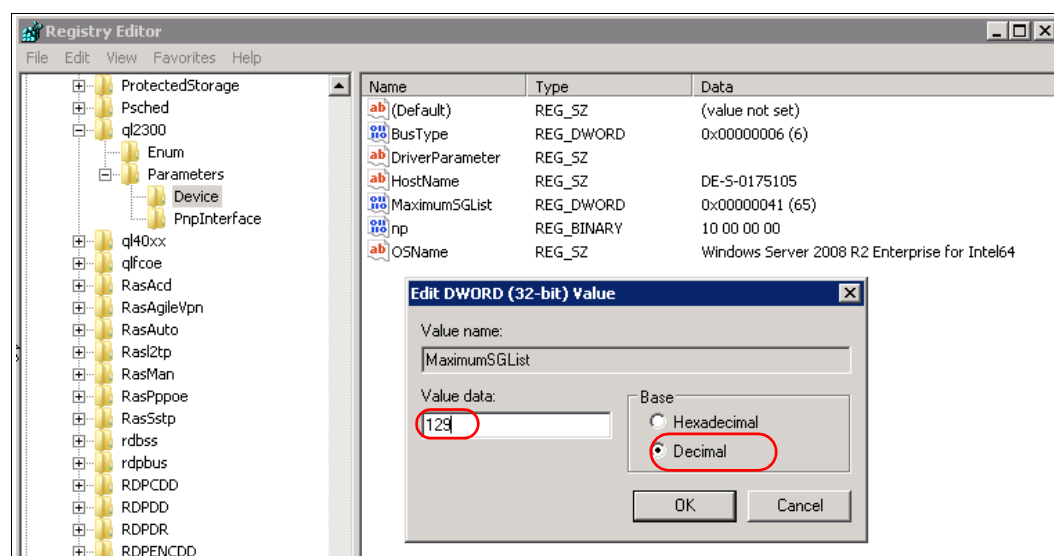

Figure 17-5 Setting a greater tape block size
2. Modify the value of the tape block size to 512 KB (524288 bytes). Enter this value as a decimal number, not hexadecimal (Figure 17-5). The formula to calculate the “Value data” is as follows: